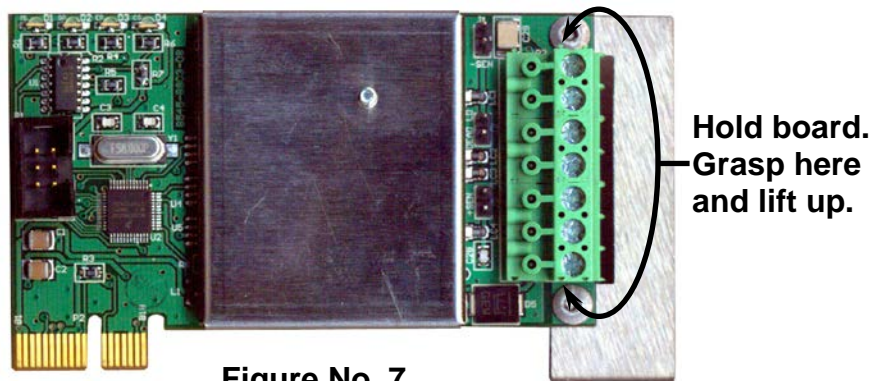

Figure No. 7
- Remove the 7-terminal block connector from the 825-SIB. (Hold the board in place, grasp the terminal block connector, and lift straight up away from the board). See Figure No. 7.